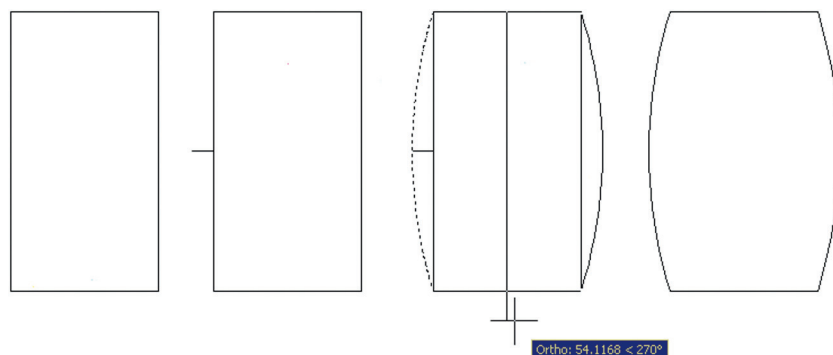

FIGURE 4.19
- To create the kitchen table you could use a rectangle with a small straight guideline sticking out from the midpoint of the left side. That could be the anchor for the second point of the arc. Then a mirror followed by an explode and erase finishes it off, as seen in Figure 4.19.